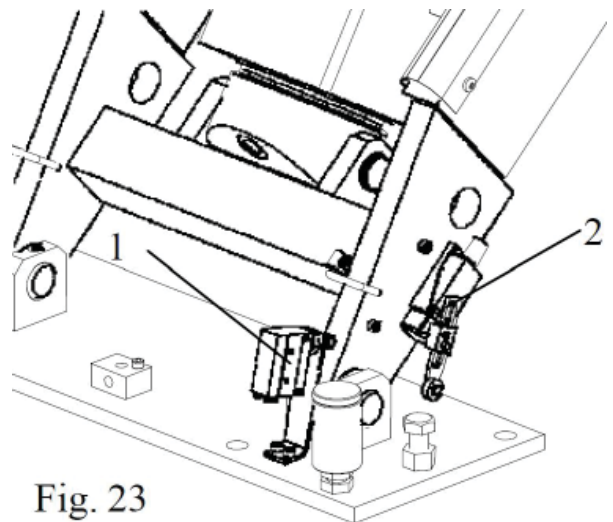

Fig. 23
7.10 Installation Of Limit Switches (Ref. Fig. 23)